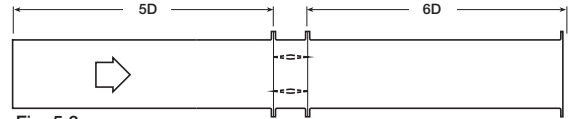

Fig. 5.3
**Figure 5.3** Illustrates a fully ducted damper. This configuration has the lowest pressure drop of the three test configurations because entrance and exit losses are minimized by straight duct runs upstream and downstream of the damper.